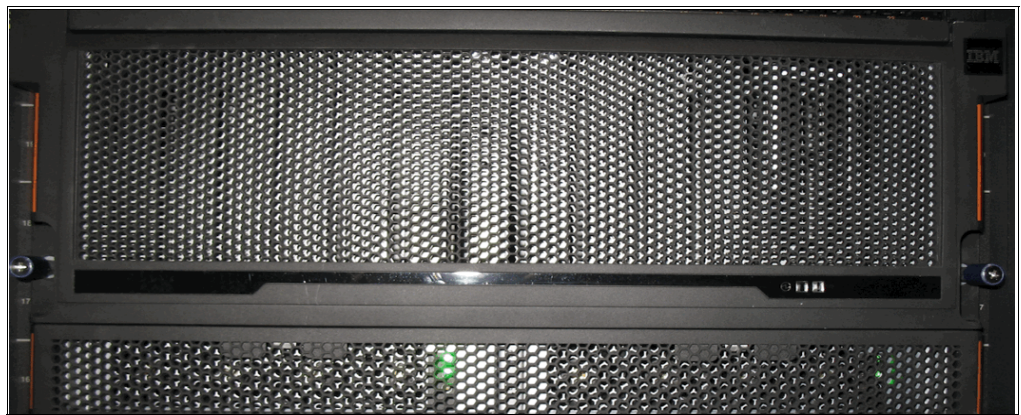

Figure 1-4 LFF HD expansion enclosure
- Large form factor high density (LFF HD). Figure 1-4 shows the large form factor high density (LFF HD) expansion enclosure that can hold 92 3.5-inch drives (or 92 2.5-inch drives in carriers) and is 5U high.